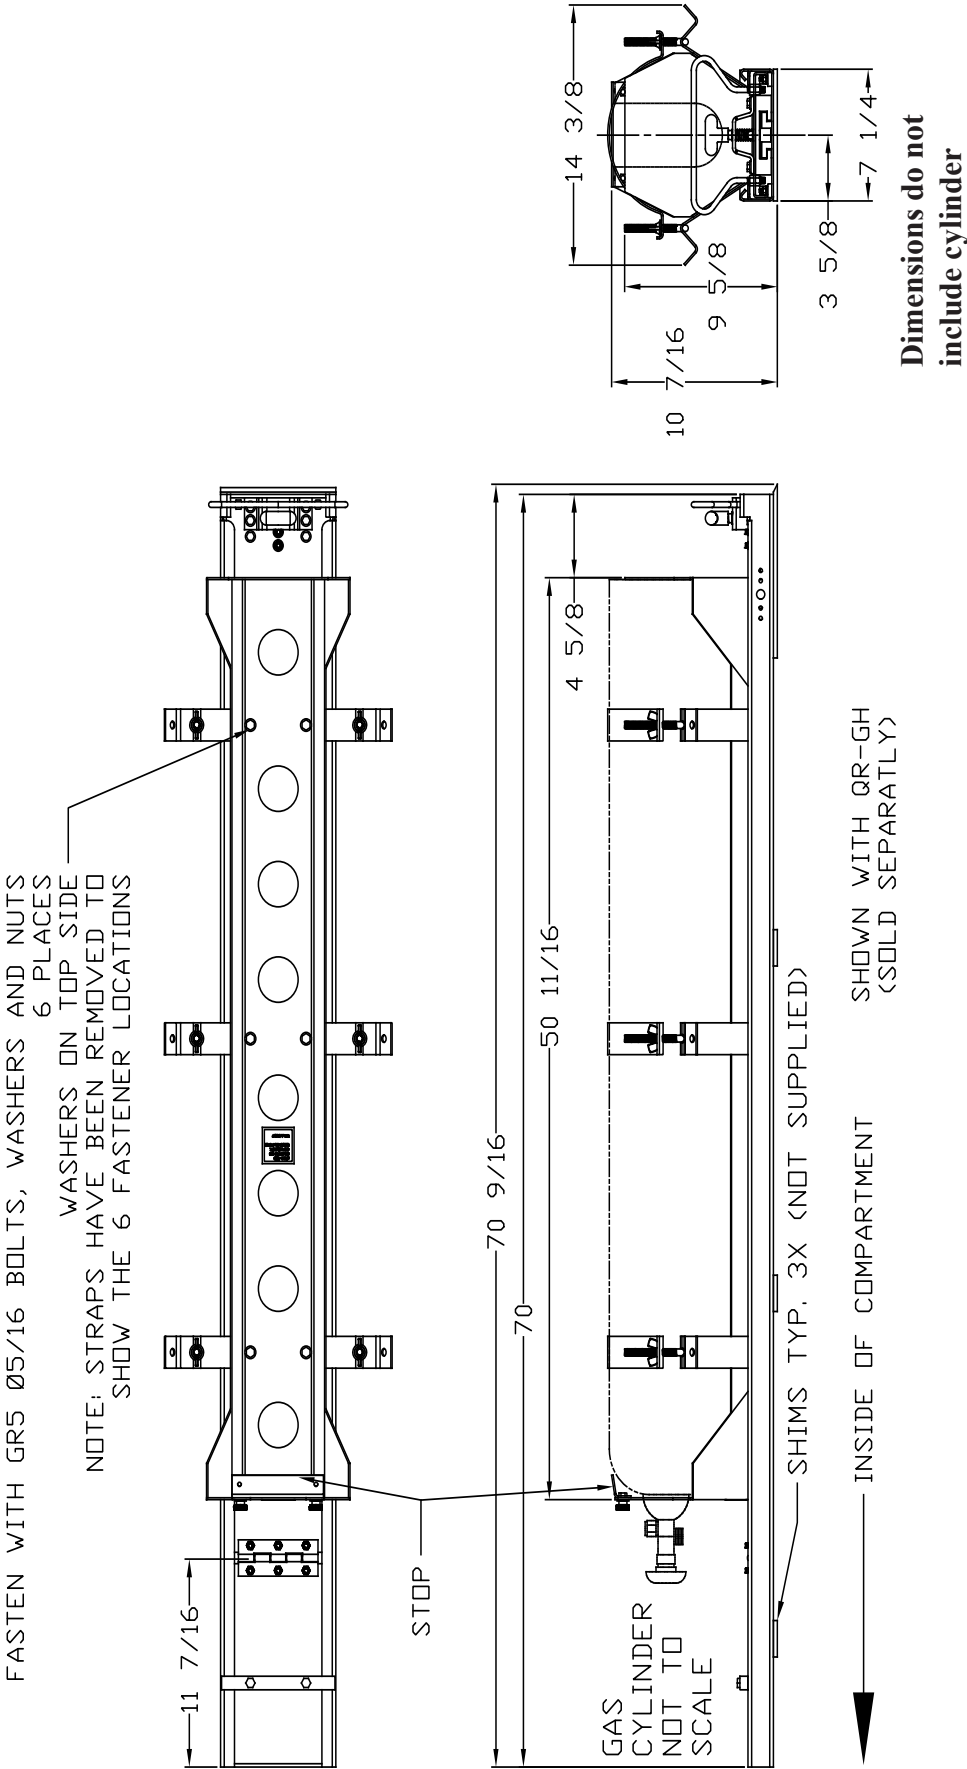

Figure 4
1. Roughly position the QR-SOFD-2 in the apparatus. See Figure 2A and 2B for mounting dimensions. See Figure 3 (with QR-MV) or Figure 4 (with QR-GH) for overall height dimensions. Note that these dimensions do not include the Gas Cylinder.
Note: See Figure 4 for the following steps and refer to the QR-GH manual (3030PM2).